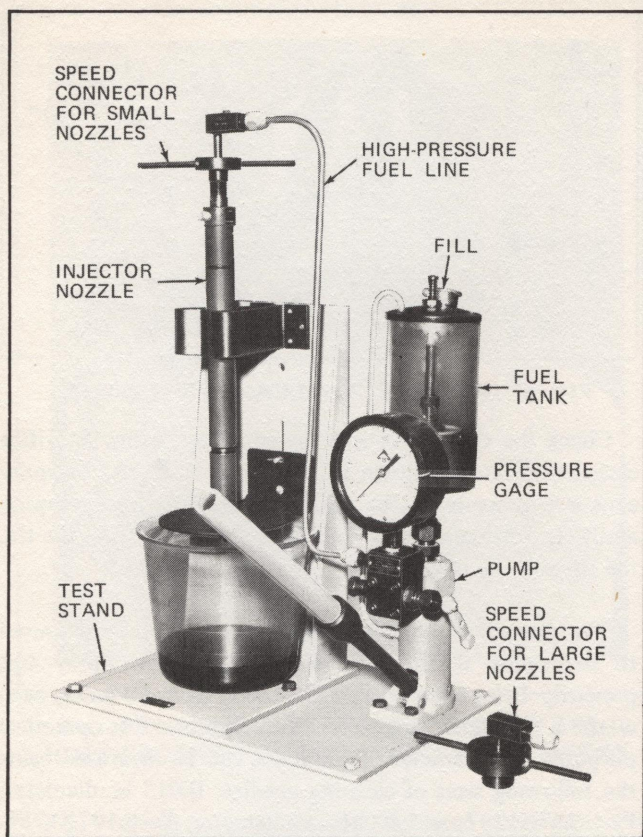

FIG. 3. NOZZLE TEST STAND.
2. Set up the nozzle in the test stand and connect the fuel line and connector to inlet (See Fig. 3).